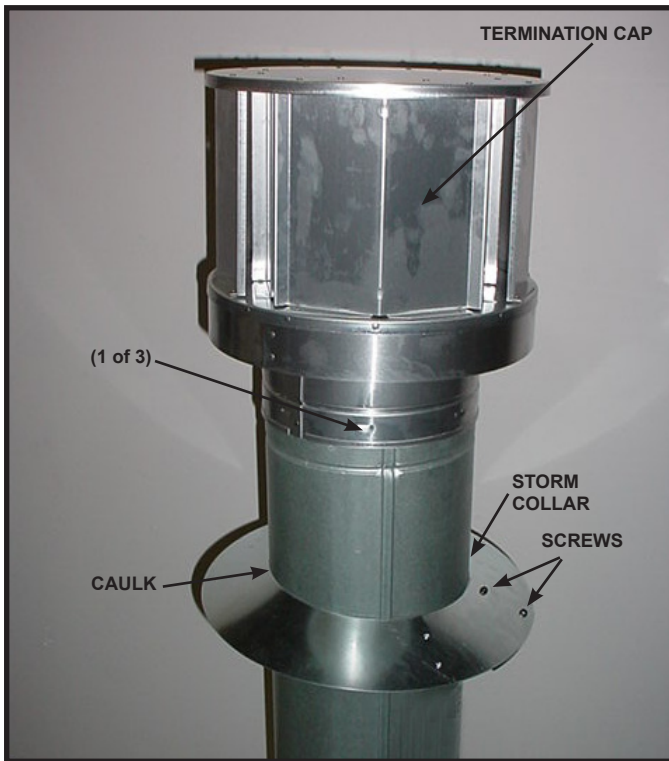

Figure 10.15
- Caulk around the top of the storm collar (see Figure 10.15).
- Secure the cap by driving three self-tapping screws (supplied) through the pilot holes in the outer collar of the cap into the outer flue of the pipe (see Figure 10.15).